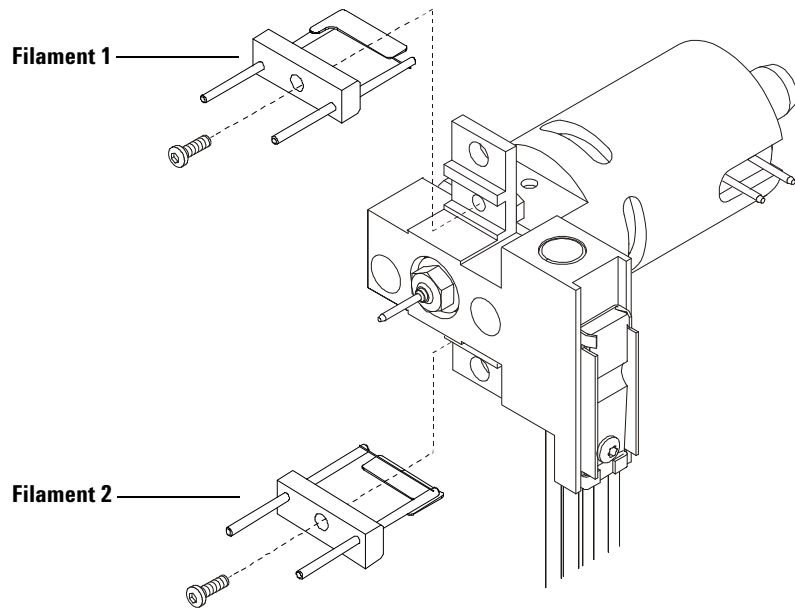

Figure 16 Replacing filaments
- 4 Remove the filament(s) to be replaced (Figure 16).
- 1 Install the new filament (Figure 16).